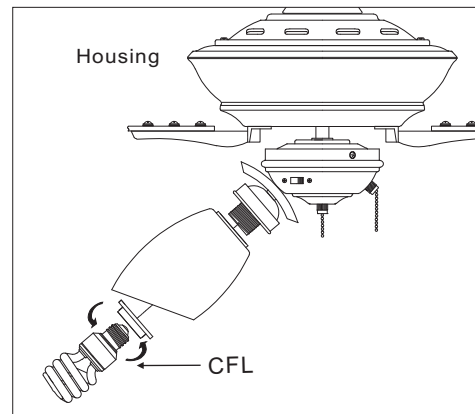

Figure 20
5. To install light kit glass shade, remove the socket ring on the light kit and install the glass shade to the light kit. Secure by tightening the socket ring previously removed. (Figure 20)